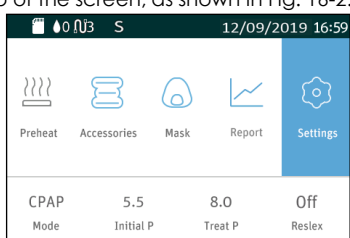

Fig. 16-2
**Note:** The above interface only applicable to the device and does not activate the SmartC or SmartA. If the SmartC or SmartA is enabled, the symbol **S** will appear in the status bar at the top of the screen, as shown in Fig. 16-2.
**Note:** As the humidity levels is off, the Preheat Function Icon  will become gray, as shown in Fig. 16-2.